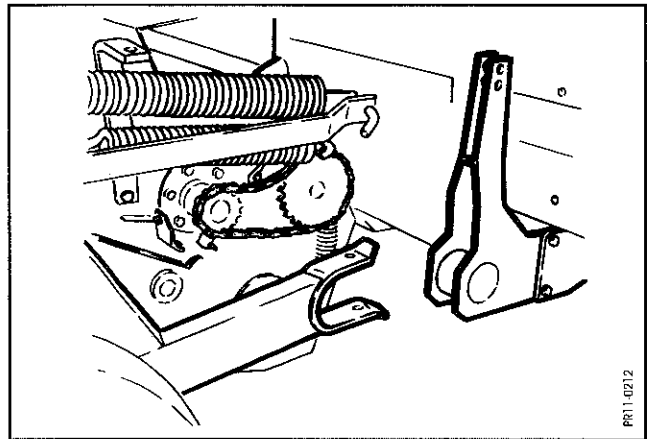

Fig.17
**Fig. 17** The pick-up is wheeled on steel wheels to the machine, to engage the machine. The pins (2 pcs.) are mounted. The balancing springs are attached to the pick-up.